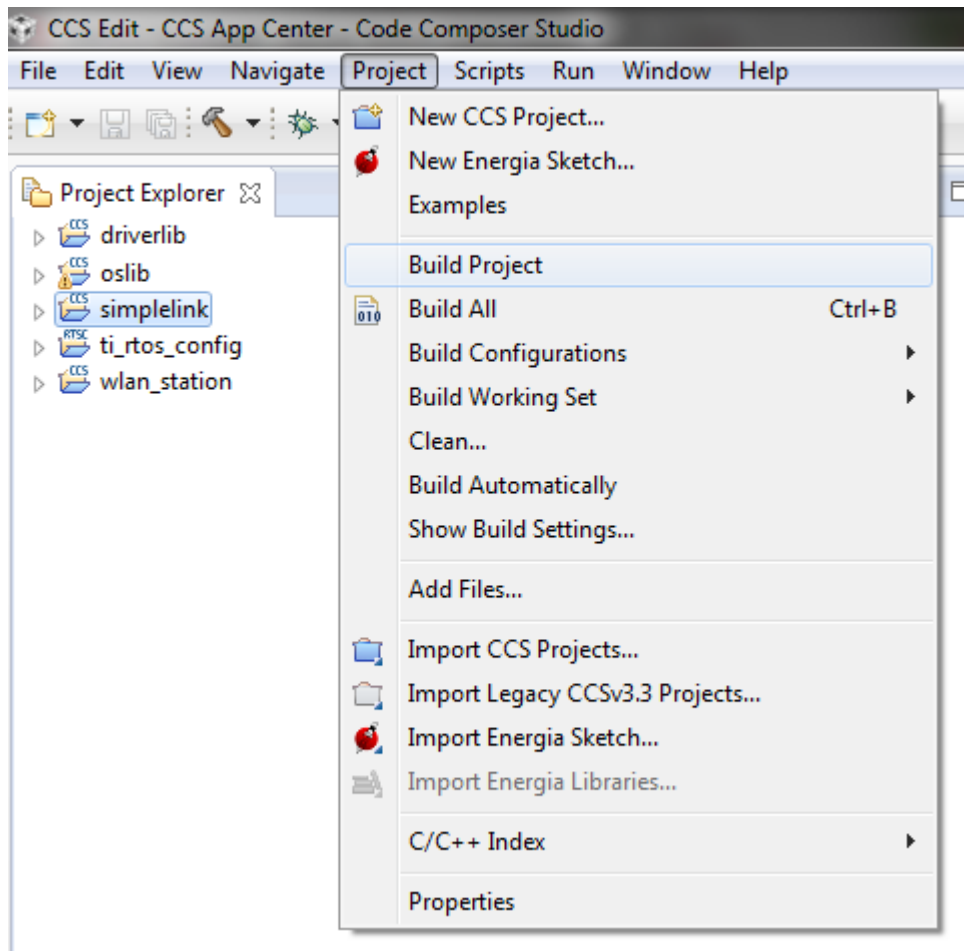

Figure 8. Select *simplelink* Project
5. Select the *simplelink* project and build it as shown in Figure 8.